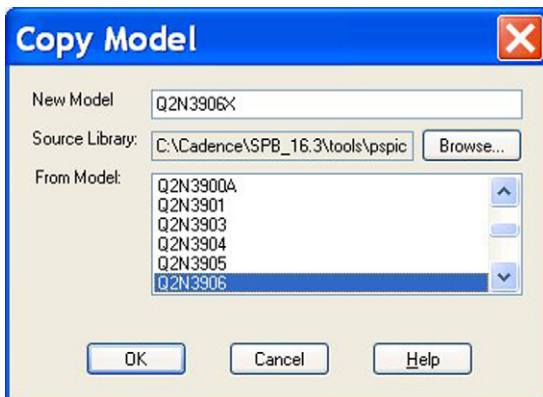

FIGURE 16.26
2. Select **Model > Copy From** and in the **Copy Model** window enter Q2N3906X in **New Model**, select Q2N3906 from the library list and click on **OK** (Figure 16.26).